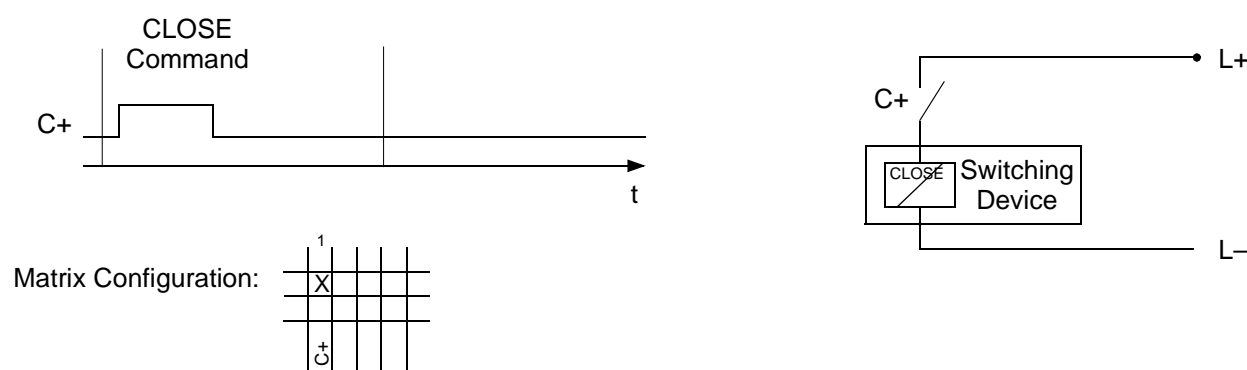

Figure 5-4 Single command with single contact
- ❑ Set for each device whether it should trip 1pole, 1½pole or 2pole, with single or double point indication, with or without feedback (see Table 5-1 and Figure 5-4 to 5-9). Thus the necessary quantity of the information to be processed is calculated and the type of command is determined.
For Figures 5-4 through 5-9, the following abbreviations apply: